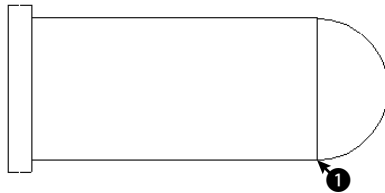

Figure 4-32: Using the From feature to complete the steam boiler.
5. The prompt asks you for a base point. Pick the endpoint at ❶ in Figure 4-32.